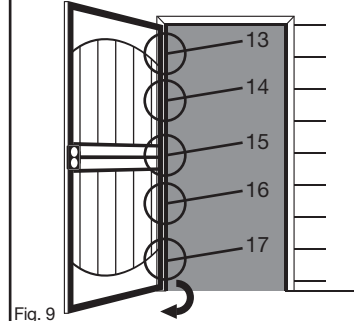

Fig. 9
Fig. 9 - Open door. On the inside of hinge side Z-bar jamb (A) insert mounting screws (K) into holes (13-17) and tighten. Lastly, re-install glass and screen panels (F & H) and secure with glass and screen clips in proper position. Close and open door to ensure proper fit, adjust if necessary.